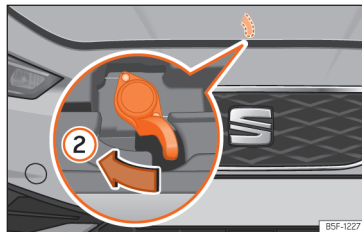

Fig. 219 Lever under the bonnet.
- To lift the bonnet, press towards the left on the lever located under the bonnet, in the centre »»» Fig. 219 ②. The fastening hooks are unlocked.